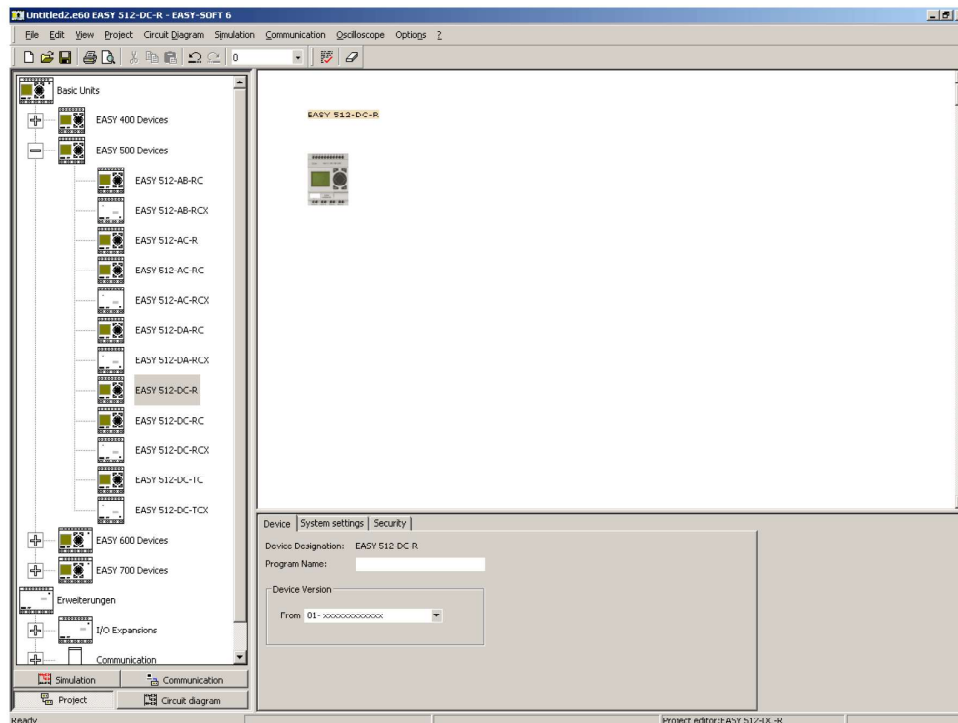

Figure C-2. Starting a project with Easy-Soft.
1. Start the Easy-Soft program on your PC. On the left menu, choose the EASY 512-DC-R icon and drag it to the empty space on the right. A small window will appear. Click OK for a device version starting with 01-. You may now assign a program name in the dedicated box, located at the bottom of the screen. Figure C-2 shows how the project window looks like.